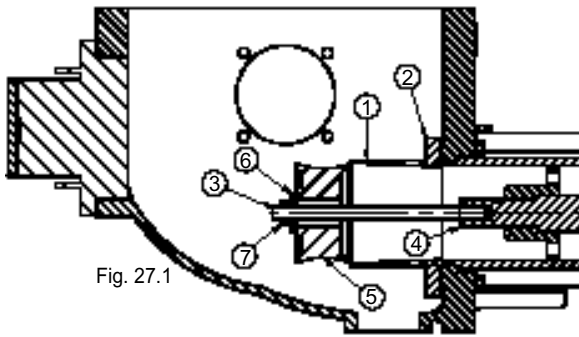
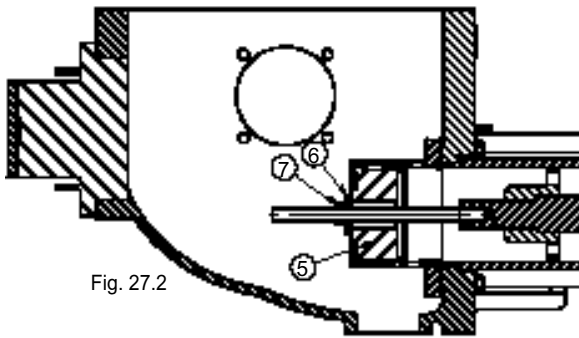
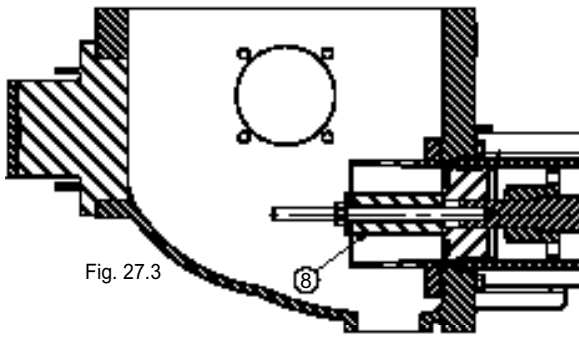

Fig. 27.1
Fig. 27.2
Fig. 27.3
- Fit the centring bush (Fig. 27.1 Ref. 1) to the wear plate (Fig. 27.1 Ref. 2).
- Screw the tie-rod (Fig. 27.1 Ref. 3) into the shaft (Fig. 27.1 Ref. 4), locate the piston at the mouth of the centring bush (Fig. 27.1 Ref. 5), fit the washer (Fig. 27.1 Ref. 6) and start screwing in the nut (Fig. 27.2 Ref. 7) until the piston is fully inside the bush (Fig. 27.2 Ref. 5).
- Unscrew the nut (Fig. 27.2 Ref. 7), remove the washer (Fig. 27.2 Ref. 6) and add the extension (Fig. 27.3 Ref. 8), then repeat the screwing-in procedure to drive the piston fully home.